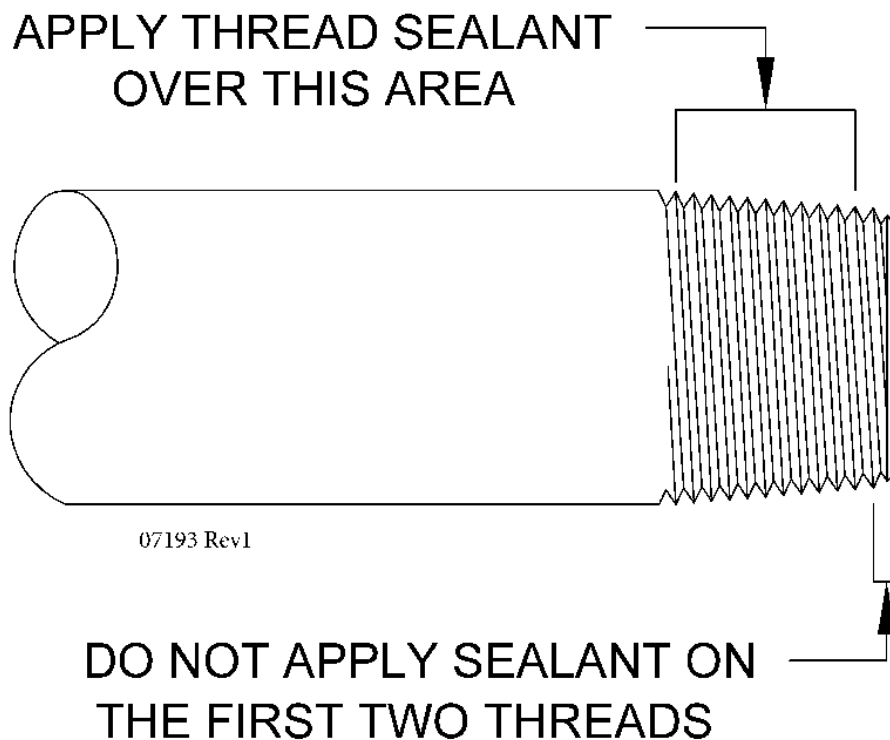

Figure 12 – Applying Thread Sealant
2. Apply thread sealant to the fuel line threads as per Figure 12 where the fuel line protrudes from the bottom of the cabinet.